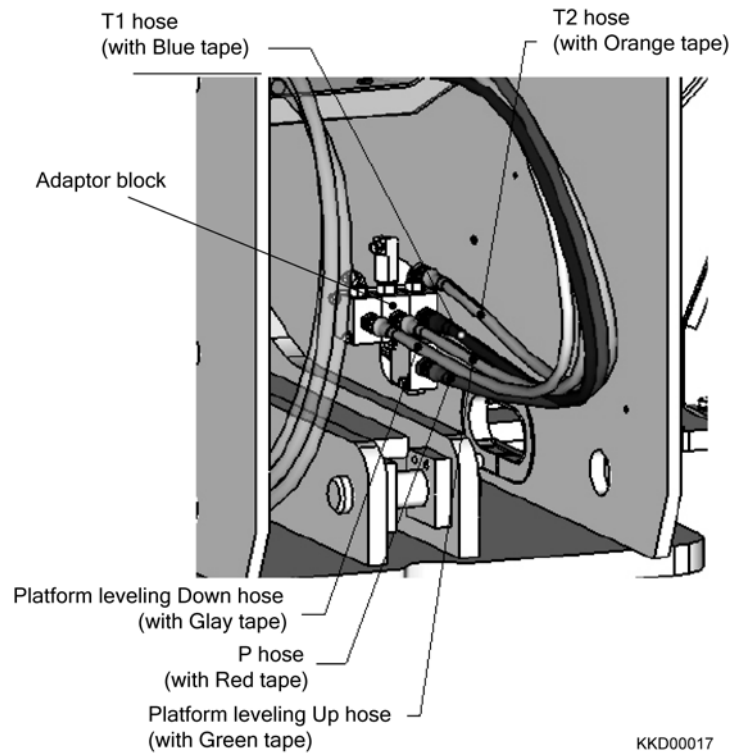
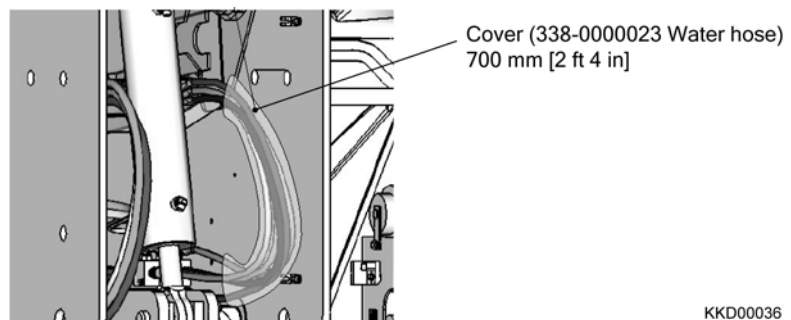

Fig. 2-46
Fig. 2-69
- 21) Tag, Disconnect the T1 hose, T2 hose, P hose, Platform leveling Up hose and Down hose from the adaptor block (Fig. 2-46), and then plug the fittings on the adaptor block and hose ends.
14) Insert the T1 hose, T2 hose, P hose, Platform leveling Up hose and Down hose to the cover (Fig. 2-69), and then connect them to the adaptor block. (Page. 2-21, Fig. 2-46)